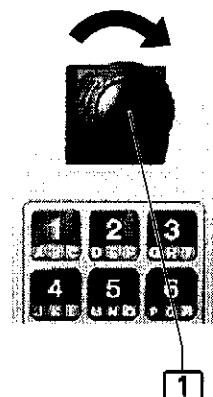

Fig. 30
8. **Fig. 30:** Due to its overlapping mode layout, the automatic serging machine is very efficient: Up to four trousers panels can be integrated in one machine cycle.
1. **Fig. 30:** Press the program stop switch **1**.